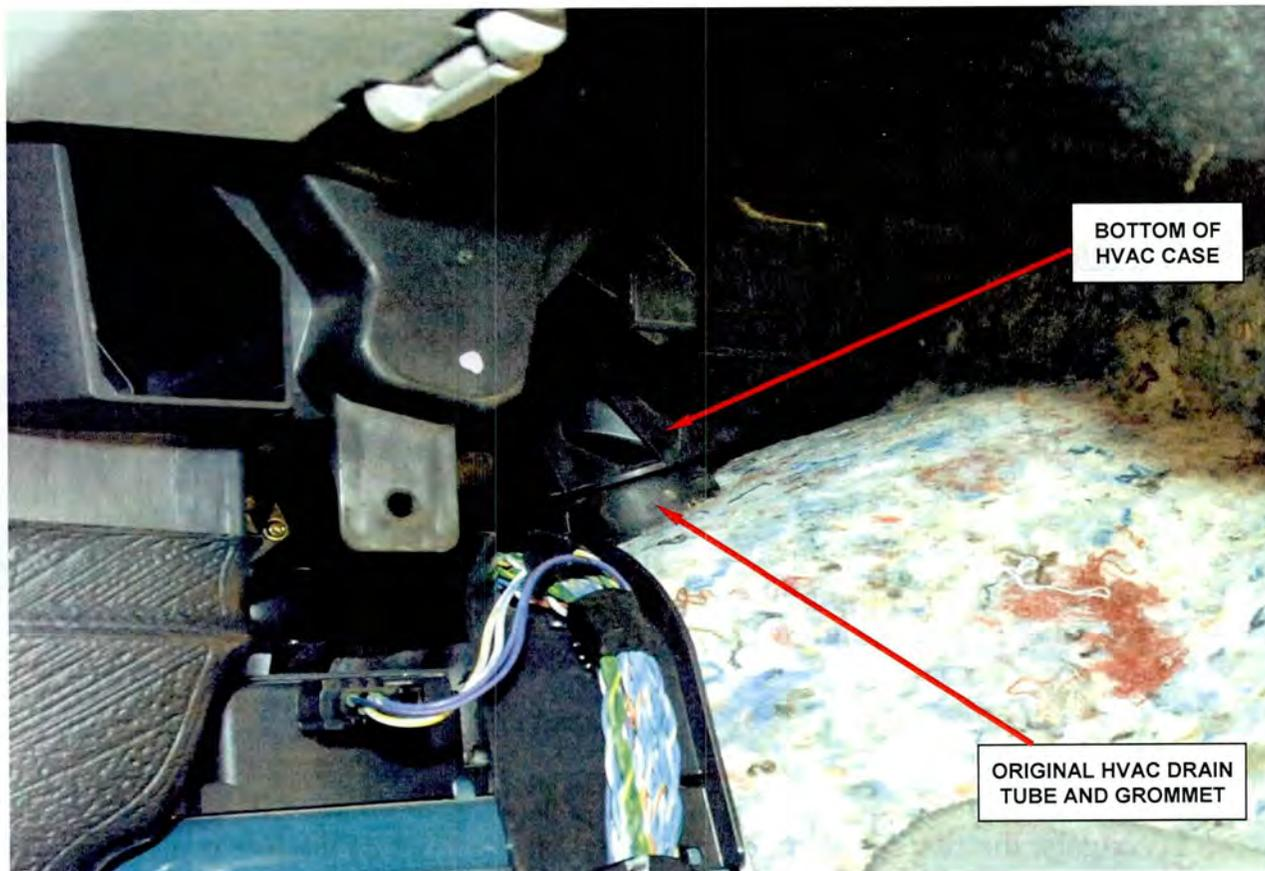

Figure 3 – Original HVAC Drain (Viewed From Right Side of Vehicle)
8. Locate the original HVAC drain tube and grommet between the bottom of the HVAC case and the floor pan (Figure 3).